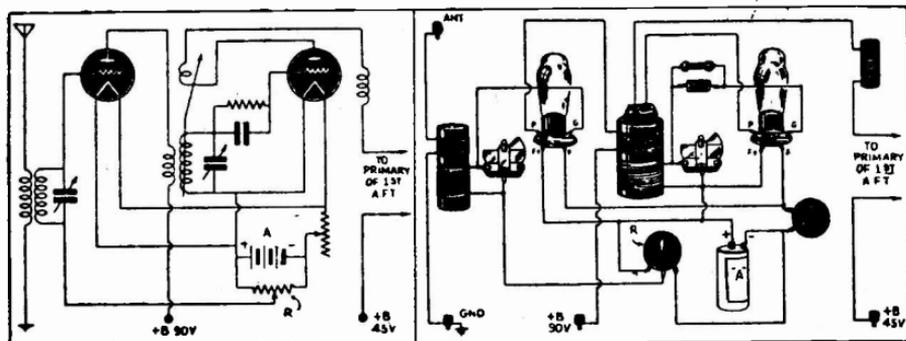

Fig. 22
The diagram, Figure 22, on this page, shows another type of amplifier—a radio frequency amplifier—which does add to the set's sensitivity and selectivity.
R.F. (radio frequency) stage's plate coil in Figure 22. Having no grid leak and condenser, the tube does not act as a detector. Certain biasing (not used) could also make it detect.
To get different voltages for the various stages of the set, a voltage divider, R, is used. As it is connected across the lines, it always draws some current through itself, and is therefore often called a "bleeder." This resistor is usually provided with contacts which can be fastened at any desired points, so that the desired voltages may be tapped off. It works much like the potentiometer resistance described in Figure 22.